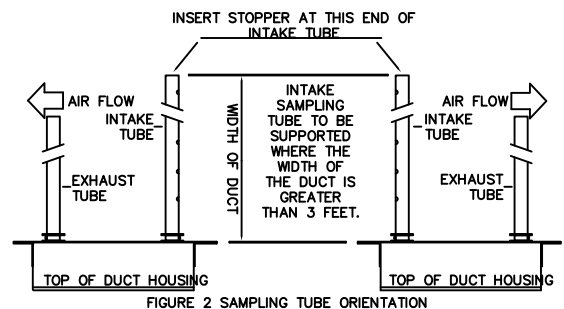

FIGURE 2 SAMPLING TUBE ORIENTATION
The Duct Detectors are designed for use in ducts where the air velocities are from 300 to 4000 feet per minute. Verify this by checking specifications of installation and if necessary, use an Anor Model 6000P velocity meter (or equivalent) to check the air velocity. See Figure 2 for sampling tube orientation to air flow direction.
C. SAMPLING TUBE ASSEMBLY (See Figure 2)
The sampling tubes may be ordered to a desired length or ordered in one of 3 standard lengths and cut per requirements. The intake sampling tube consists of a piece of steel piping with a series of holes drilled the entire length of the tube and should extend the entire width of the duct. The holes must be facing into the air flow (see Figure 2). The exhaust tube consists of a piece of steel piping approximately 7-1/2" long.
D. MOUNT SAMPLING TUBES (See Figure 2)
- Sampling tube connectors are equipped with set screws to be mounted only in directions shown in Figure 2. Establish proper orientation considering airflow direction.